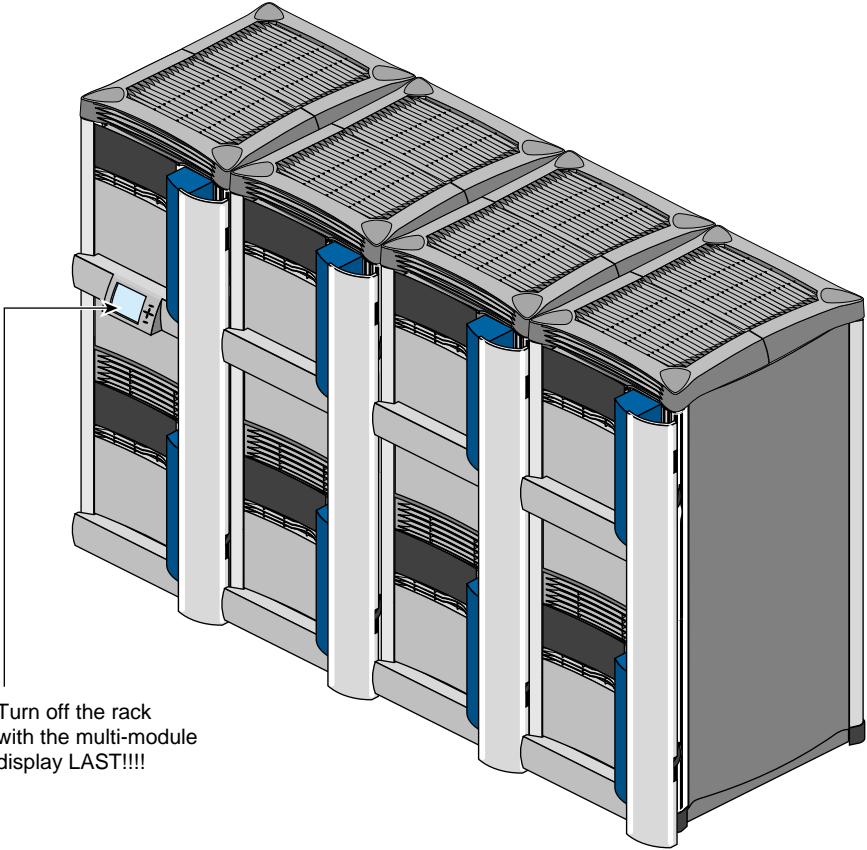

Figure 6-6 Turning Off a Multirack Configuration
3. Turn off the rack with the MMSC last (see Figure 6-6).